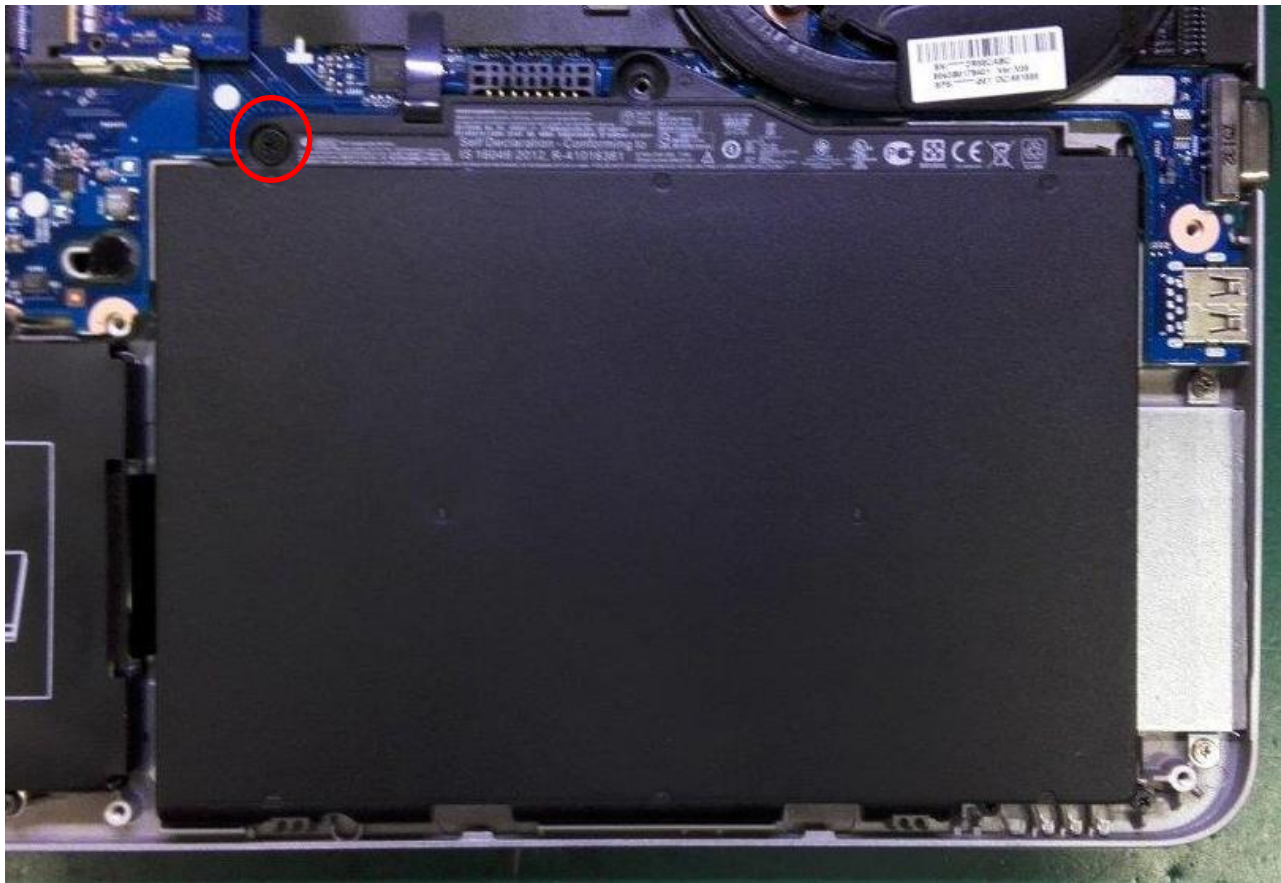

Fig.1
- 2. Pull up the pulling strip to take out the battery. (Fig.1)